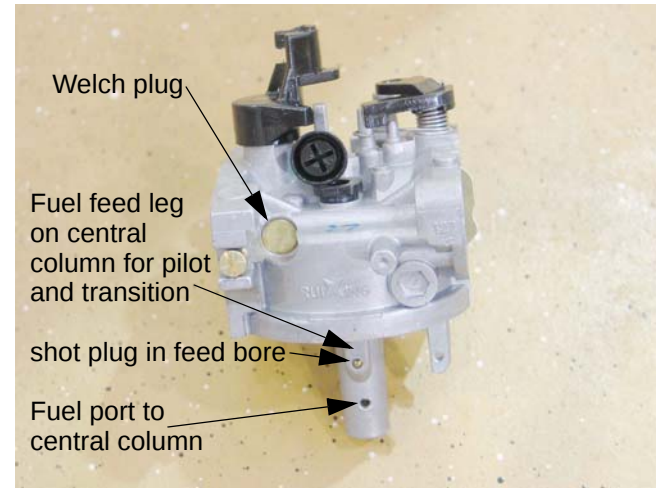

Figure 8.32
- 8.32. The throttle stop screw has a large pliable lip around the head of the screw. That lip secures a metering plug for the pilot and transition ports. Remove the screw to reach the plug. See Figure 8.32.